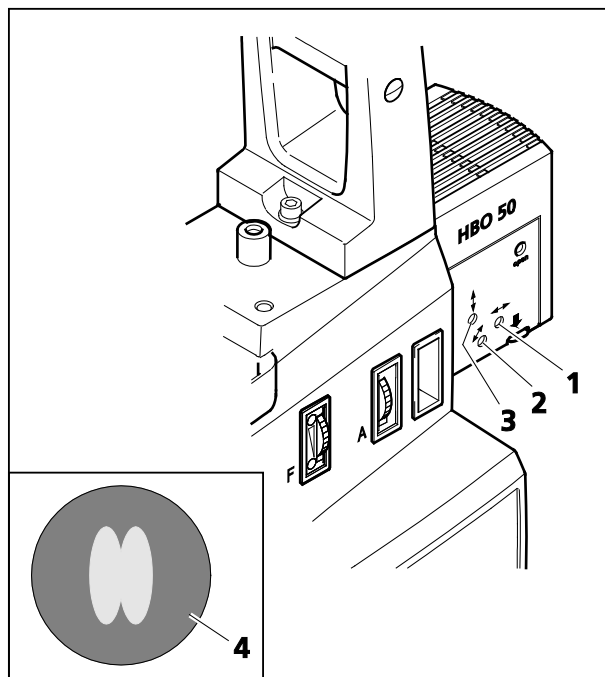

Fig. 3-17 Adjusting HBO 50
- Using the adjusting screw (Fig. 3-17/1), set the burner in axial direction to the mirror until the two light arcs appear equally sized on the source image (see Fig. 3-17/4).
- Position the light arc and the mirror image parallel to one another (Fig. 3-17/4) with the aid of the height (Fig. 3-17/3) and lateral adjustment (Fig. 3-17/2) screws, respectively. The light arc and the mirror image should overlap by one third.